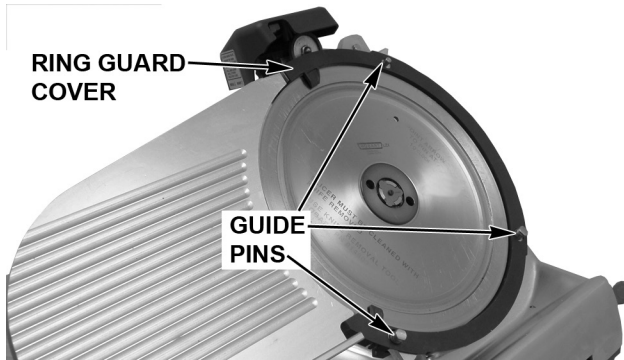

Fig. 23
- Install the Ring Guard Cover on the three Guide Pins (Fig. 23).